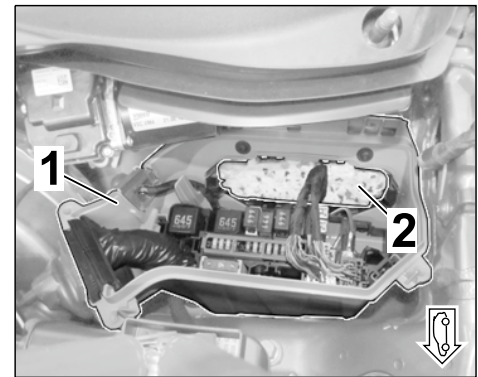

Figure 46
- 5.4.1 Install foam pads on bulkhead (⇒ *Figure 46 -2-*).
- 5.4.2 Install cover on fuse box (E-box) in cowl panel (⇒ *Figure 46, ⇒ Workshop Manual '978409 Loosening and securing fuse box'*).